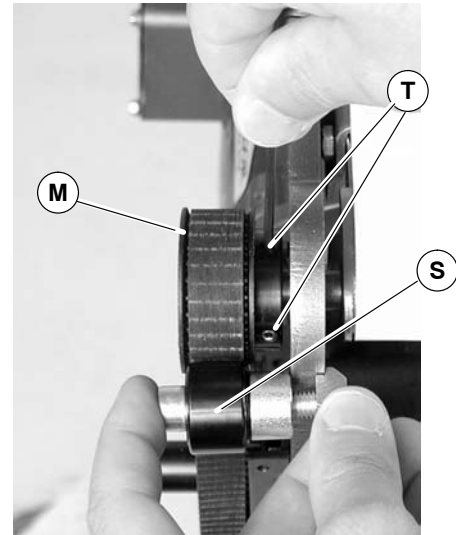

Figure 11
6. Wrap timing belt (P) around driven pulley (M) and drive pulley (J). Install driven pulley onto conveyor shaft (Q).
7. Remove cam bearing and spacer (S of Figure 9). Place the cam bearing and spacer (S of Figure 11) next to the driven pulley (M). Ensure the flanges of the driven pulley are aligned with the cam bearing. Tighten driven pulley set screws (T). This will allow for proper belt alignment while conveyor is in use. Install cam bearing and spacer (S).